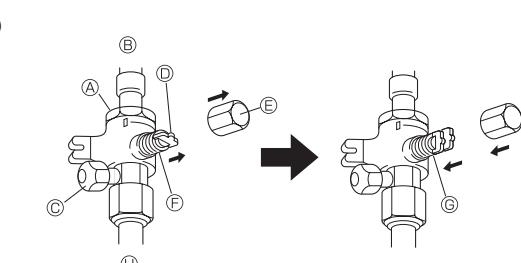
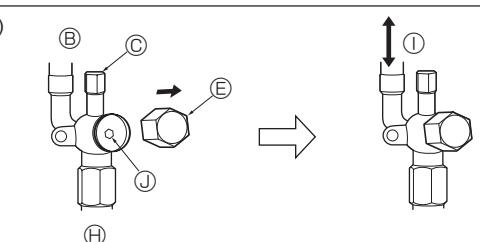

Fig. 4-7
Fig. 4-8
- (1) Gas side (Fig. 4-7)
- ① Remove the cap, pull the handle toward you and rotate 1/4 turn in a counterclockwise direction to open.
- ② Make sure that the stop valve is open completely, push in the handle and rotate the cap back to its original position.
- (2) Liquid side (Fig. 4-8)
- ① Remove the cap and turn the valve rod counterclockwise as far as it will go with the use of a 4 mm [3/16"] hexagonal wrench. Stop turning when it hits the stopper.
- ② Make sure that the stop valve is open completely and rotate the cap back to its original position.